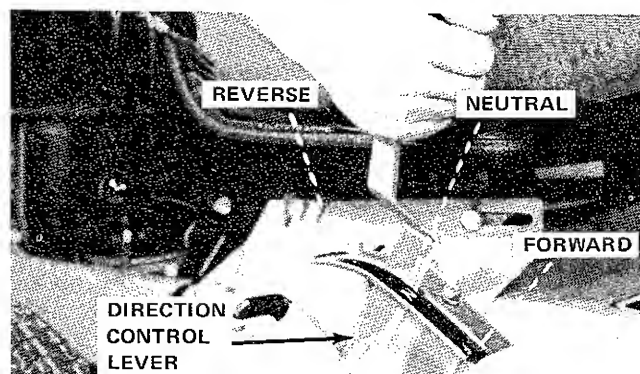

Figure 3-10. Direction Control Lever Positioning
3. Direction Control Lever-NEUTRAL (Figure 3-10).
E. Slowly move direction control lever forward until vehicle begins moving (Figure 3-10). Continue lever movement until it is locked in FORWARD position. Vehicle should now be moving.